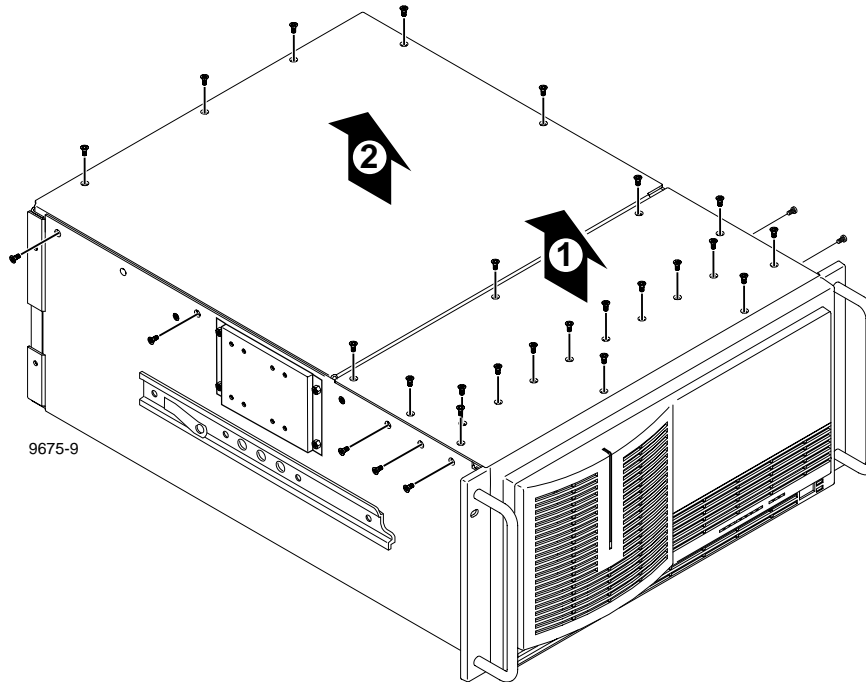

Figure 1. Removing the Chassis Cover Screws
2. Using a Torx tool with a T10 tip, remove the top screws from the front chassis cover and then use the T15 tip to remove the side screws. Remove the front cover (❶ in Figure 1). The front chassis cover must be removed first because it overlaps the rear chassis cover.
NOTE: Take care not to lose the chassis screws—they are required to meet EMI specifications for the Profile system. Also note that the PDR100 may not have the same number of screws as shown in Figure 1.
3. Using a Torx tool with a T10 tip, remove the rear chassis screws and then remove the rear cover (❷ in Figure 1).